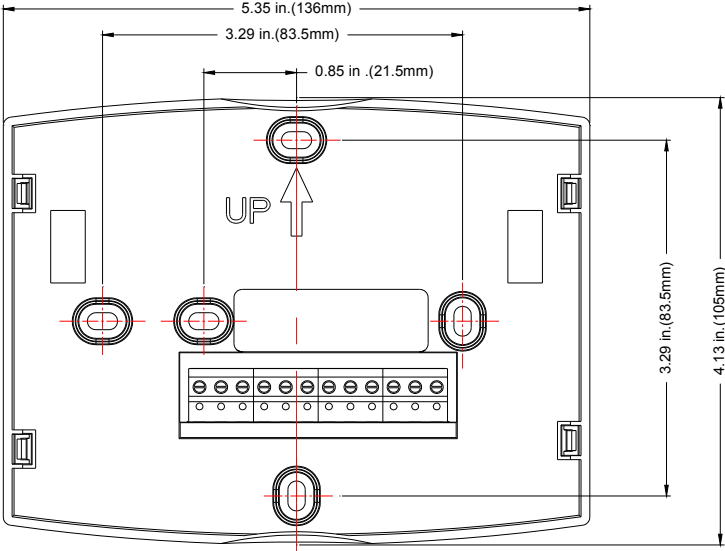

Fig. 4. Cover Plate dimensions in inches. (mm).
4. EWT-3102/EWT-3103 Cover Plate: see Fig 4.